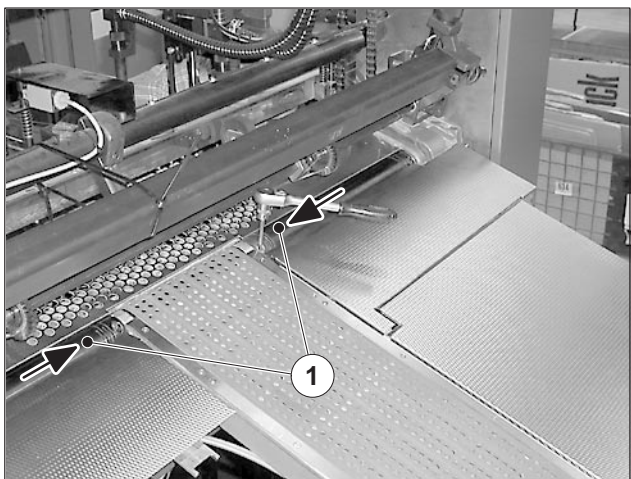

Fig. 103
8. Push the segments of the suction tape drive roller on D.S. and on O.S. inwards in the direction of the arrow (Fig. 103/1).